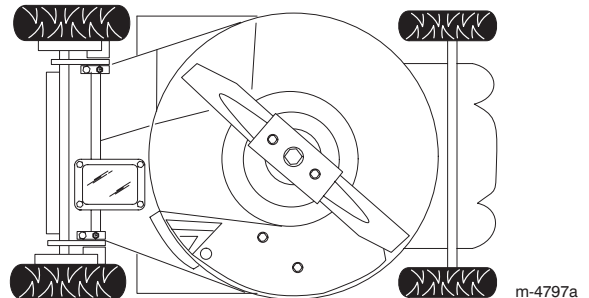

Figure 17
4. Tip the lawn mower onto its *left side* (Fig. 17).